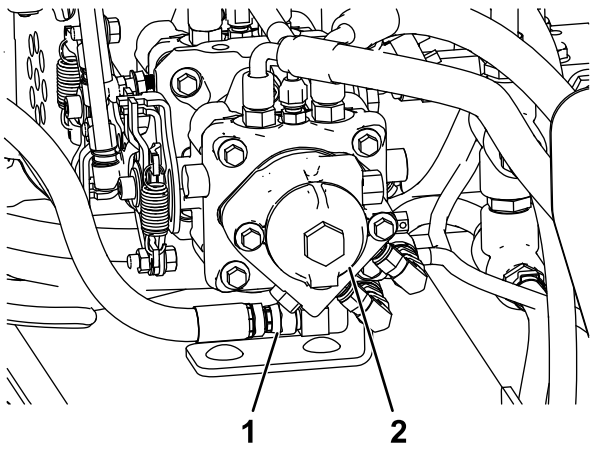

Figure 49
3. Locate the hose connecting the hydraulic filter and the hydraulic pump and place a drain pan under the hose fitting on the hydraulic pump (Figure 49).